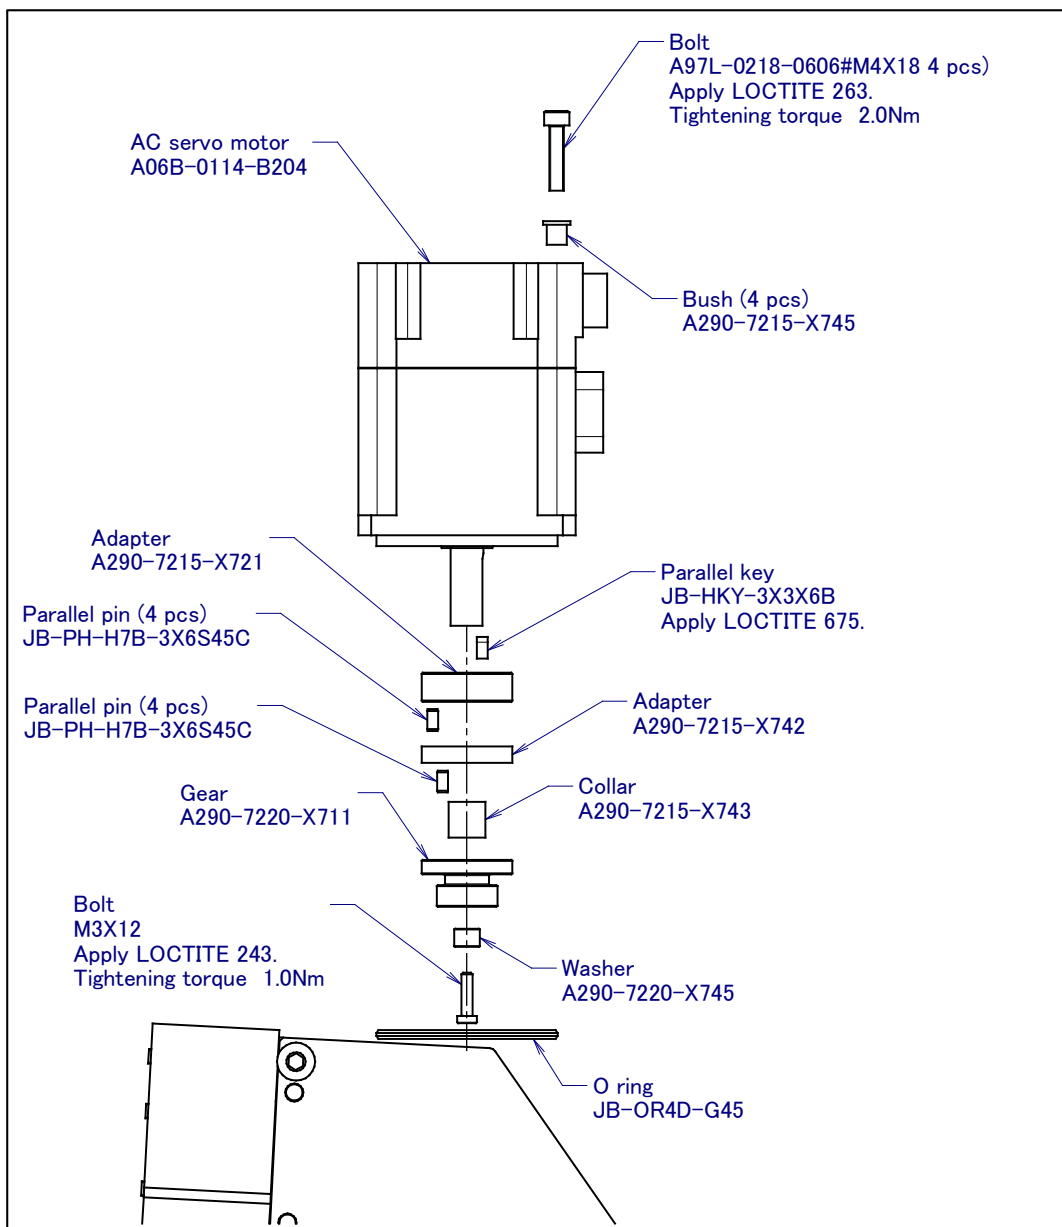

Fig. 8.4 (a) Replacing the motor (Servo torch for aluminum/TIG)
- 5 Loosen the M3 bolt at the top of the shaft by referring to Fig.8.4 (a), and remove the gears and adapters.